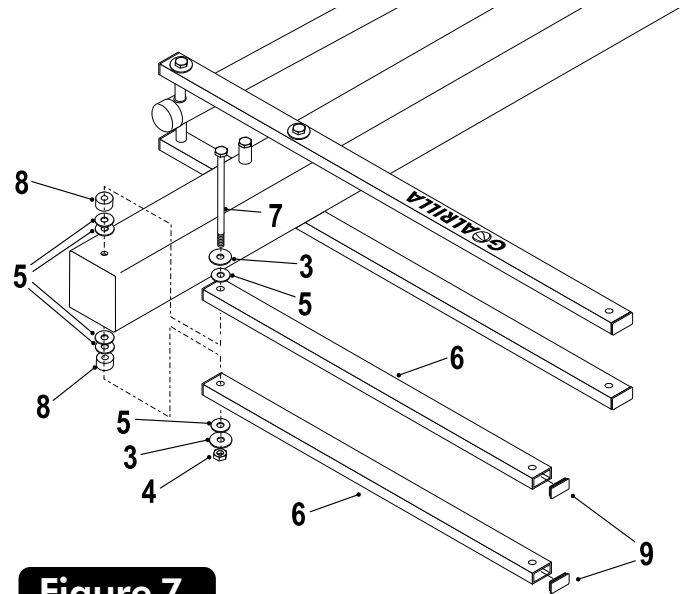

Figure 7
9. Attach Upper Arms (#6) to Pole (#2), as shown in Figure 7, using a bolt (#7), two flatwashers (#3), six plastic washers (#5), two spacers (#8) and one hex nut (#4).